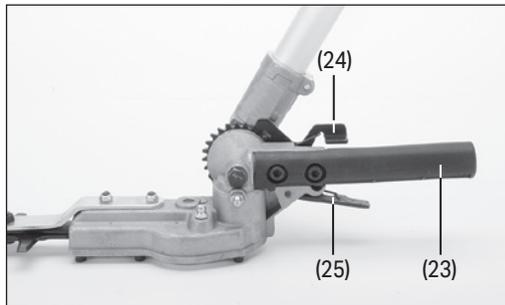

Fig. 13
8.1 Adjusting the Blade Angle (Fig. 13)